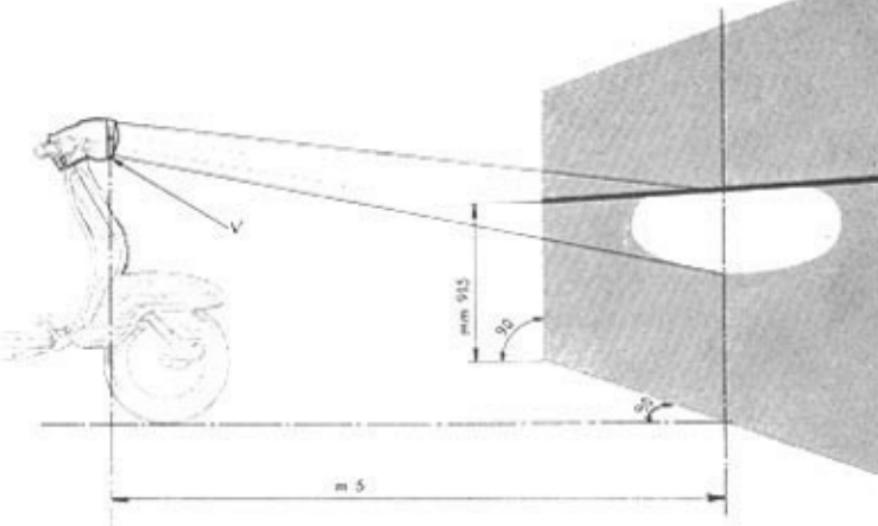

Fig. 12
- Place a vertical screen as shown in fig. 12.